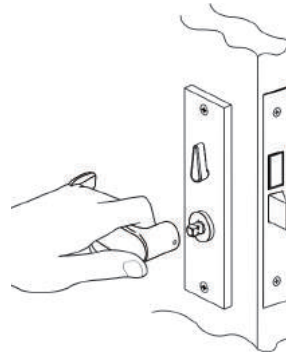

Figure 12
1. Place inside lever horizontally onto lever spindle. Hold lever firmly against the escutcheon. (Figure 12)